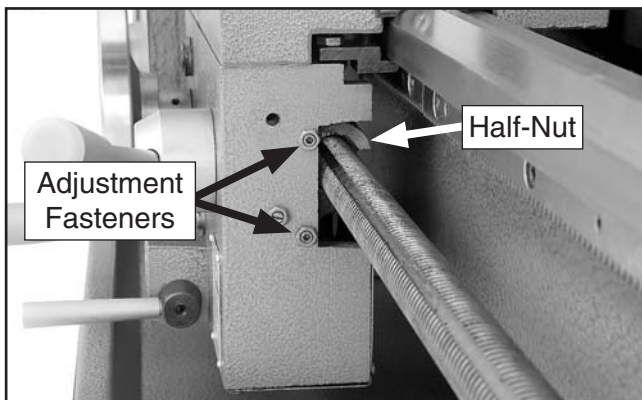

Figure 76. Half-nut gib adjustment hex nuts and set screws (thread dial removed).
3. Loosen the two adjustment hex nuts, then adjust the set screws in small increments (see **Figure 76**).